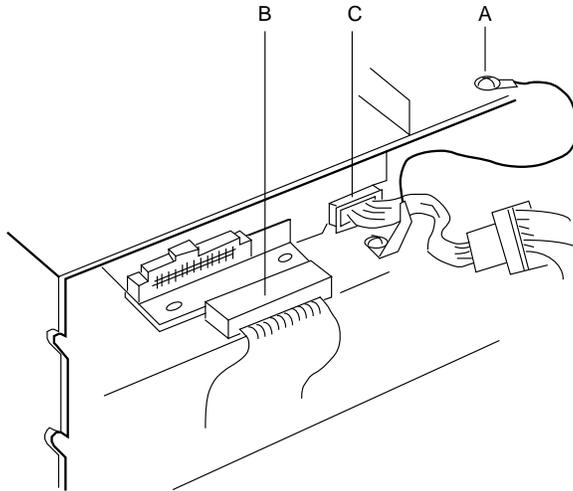

Figure A-31. Connecting the Data and Power Cables
4. Attach one of the spare ground wires, if present, from the top of the center bay to the ground standoff (A) at the rear of the drive. See Figure A-31.